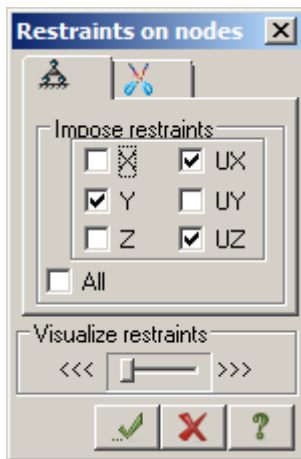

Figure 6.11 **Restraints on nodes** dialog box
- ⇒ In the **Restraints on nodes** dialog box (see Fig.6.11), specify directions along which displacements of nodes are not allowed (Y, UX, UZ). To do this, select appropriate check boxes.